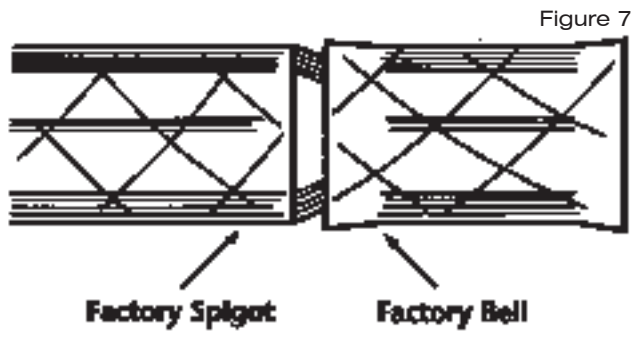

Figure 7
25. Slide the bell on the factory spigot that was used to set the tool, and tap on lightly. Be sure the taper is seated properly. (See Fig. 7.)